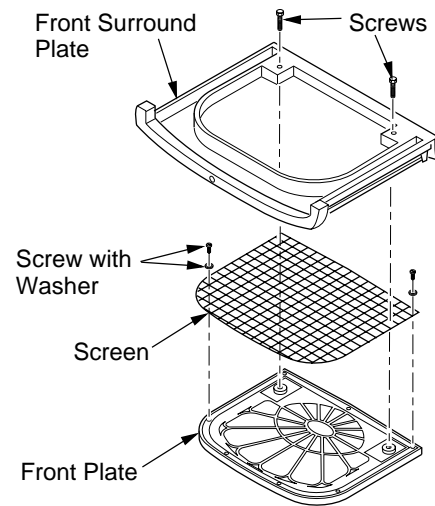

Figure 14 - Removing Screen from Front Assembly
14. Lay the front panel assembly face down on a protected surface. Remove the two screws that hold the front plate onto the front surround plate (see Figure 14). Save these screws.
15. **Optional:** Remove the seven screws and washers that hold the screen onto the front surround plate. They are for vent-free use only (see Figure 14).